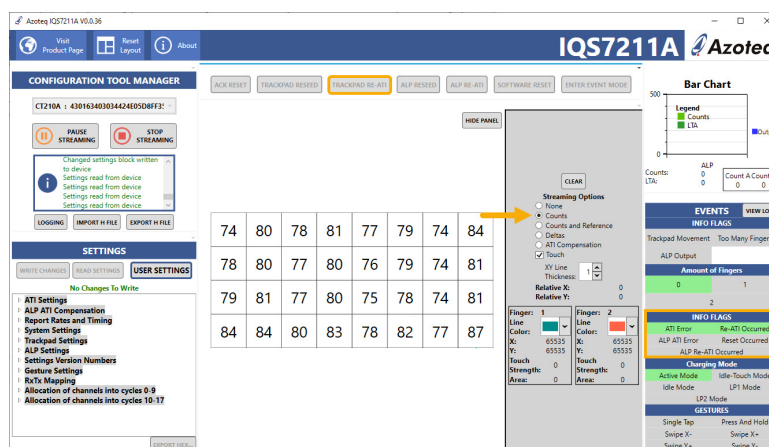

Figure 4.1: Read ATI Base Target Values
4. Read the ATI Base Target values as illustrated in Figure 4.1.